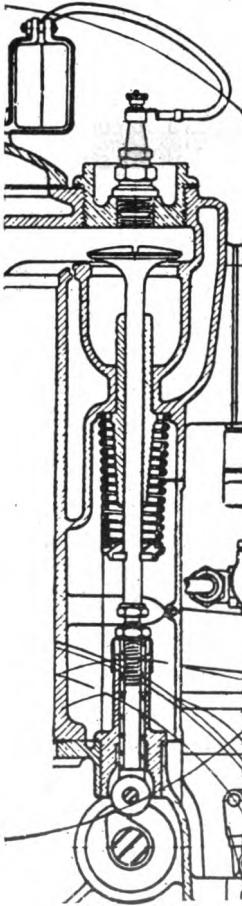

Fig. 151. Complete Valve Motion with Roller Push Rod
**Typical Valve Actions.** Figs. 151 and 152 illustrate the complete valve action very well; the former, that of the Locomobile Company of America, Bridgeport, Connecticut, showing the form in which the cam works against a roller in the bottom of the push rod. This works upward in the push-rod guide and has a dirt excluding arrangement at the top. The top of the push rod bears against the bottom of the valve stem with an adjustable hardened screw forming the contact. The valve is held down on its seat in the cylinder by means of a strong spring, which the upward movement of the push rod opposes. The valve is guided in and has its bearing in the valve guide, which is made long to give large bearing surface. As the Locomobile motor is of the T-head type, the exhaust and inlet valves are on opposite sides of the cylinders and are operated by separate camshafts. The valve mechanism is completely enclosed.
*Valve-Stem Clearance.* This clearance is necessary to compensate for the expansion of the valve stem when it becomes highly heated during the operation of the engine; the tappet or push rod does not become heated, consequently it does not expand. Practically all motors are made with an adjustment here in the form of a screw with a hexagon head which is hardened where it strikes the valve stem or it is recessed out for a piece of hard fiber to deaden the noise, Fig. 151, and the fiber is locked in the desired position by means of a lock nut. If the clearance is less than the required amount or greater so that the motor is very noisy, the lock nut is loosened, and the screw gradually turned upward until it just begins to grip the visiting card. This should be done very carefully, for if the clearance is made too small, the valve will not seat fully when the motor is hot and the valve has expanded; on the other hand, if the clearance is made too large, the push rod will come up against the valve end each time with a bang, and eight of these repeated a thousand times a minute make a great deal of disagreeable and useless noise. In the modern motor, the cams are made an integral part of the camshaft. If the driving gear for the camshaft is in its right place, and the camshaft bearings are